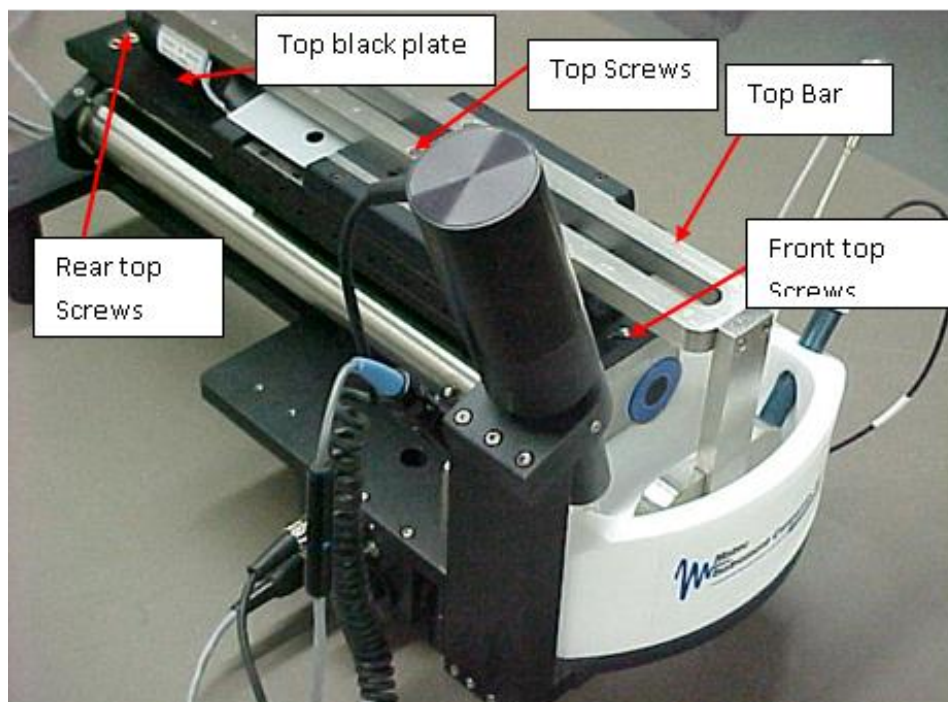

Fig. V.1.
1. Refer to Figures V.1, and V.2 below. Note: Your hardware configuration may be slightly different from the photos below.